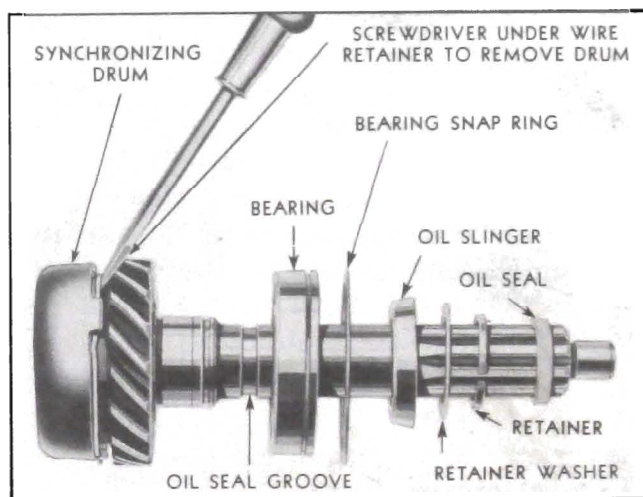

Figure 4-30—Disassembly of Main Drive Gear
11. Disassemble main drive gear if any parts are to be replaced. Remove synchronizing drum by prying retainer over shoulder on gear, leaving retainer in drum. Remove oil seal, retainer (snap ring), washer, and oil slinger from drive gear, then remove bearing by jarring shaft on block of wood or lead. See figure 4-30. Remove main shaft pilot roller bearing by removing retainer (snap ring) and retainer washer.